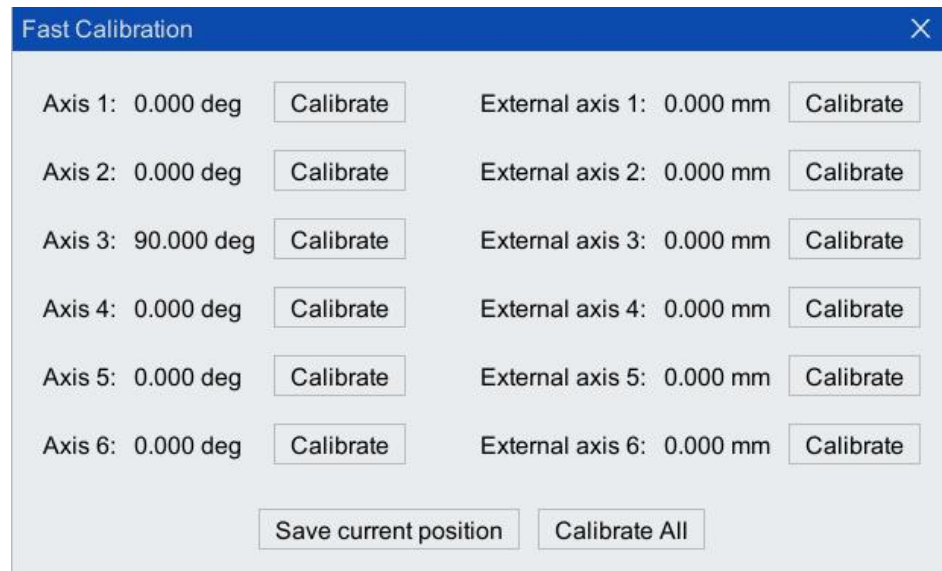
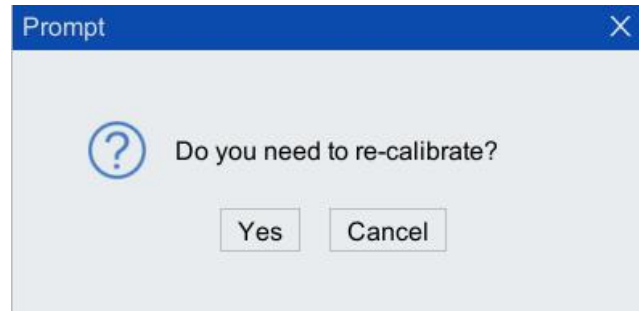

Figure 5-90 "Quick Calibration" Interface
Figure 5-91 "Are you sure to recalibrate?" dialog box
Step2. On the main interface of the teach pendant, click "Run > Calibration > Fast Calibration" option to enter the "Fast Calibration" interface shown in Figure 5-90. Click <Save Current Position> button, and then the system will record the robot's current axis position.
Step4. Re-enter "Fast Calibration" interface in Figure 5-90, and click <Calibrate> button behind any axis or <Calibrate All> button below, and "Do you need to re-calibrate?" dialog box will pop up, as shown in Figure 5-91. Click